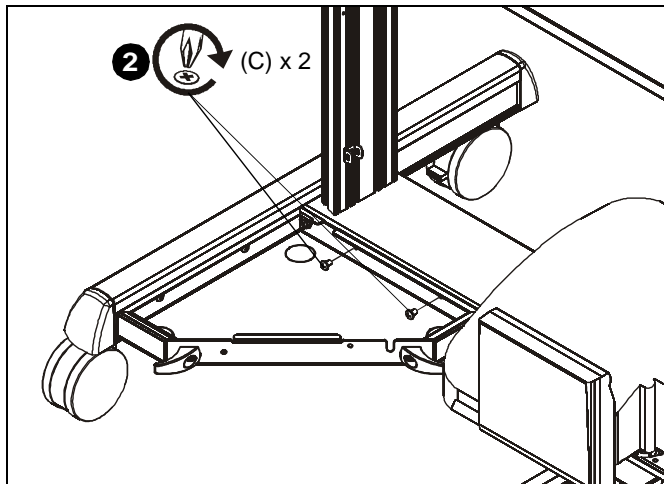

Figure 2
2. Use two 1/4-20 x 3/8" Phillips pan machine screws (C) to attach shelf (A) to cart cross bar. (See Figure 2)